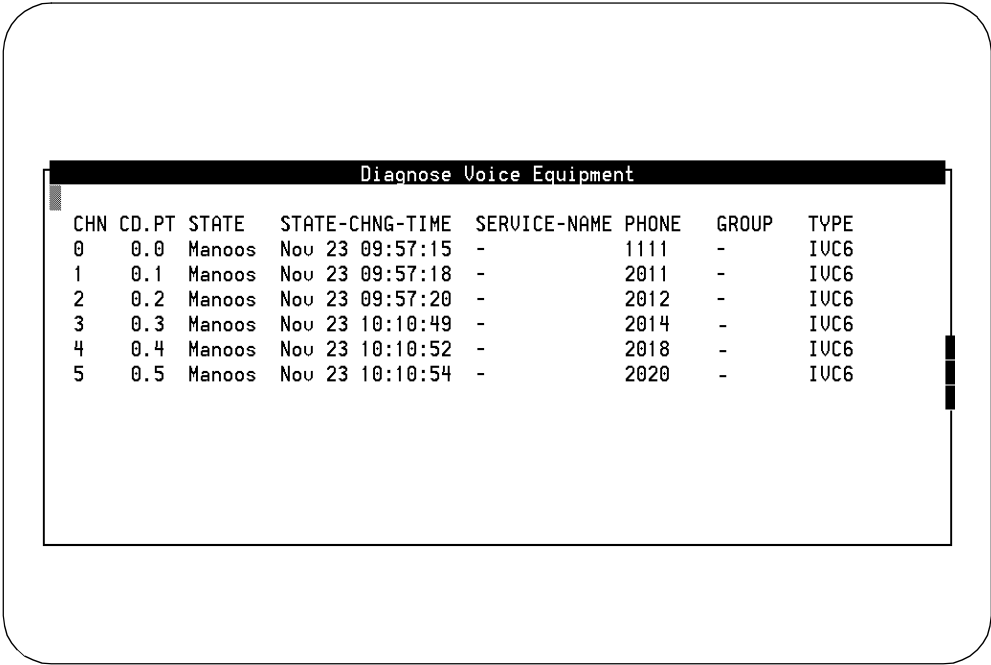
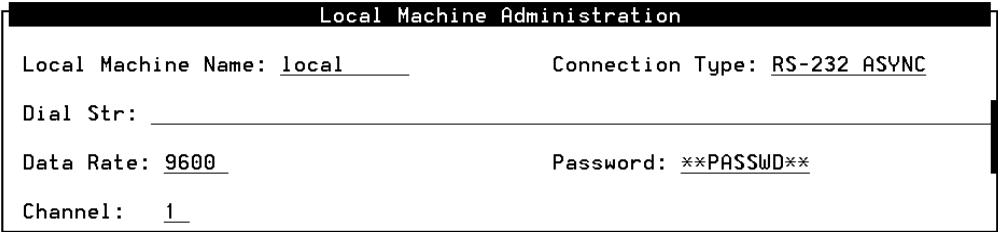

Figure 1. Example of a Lucent INTUITY Window
Figure 2. Example of a Lucent INTUITY Window
- The Lucent INTUITY system displays *windows*, *screens*, and *menus*. Windows show and request system information (Figure 1 and Figure 2, respectively). Screens request that you enter a command at the entercommand: prompt (Figure 3). This input is either a value or other specific information you must input through a field (Figure 2) or a command you must enter from the enter command: prompt (Figure 3). “Menus” (Figure 4) present options from which you can choose to view another menu, or a screen or window.